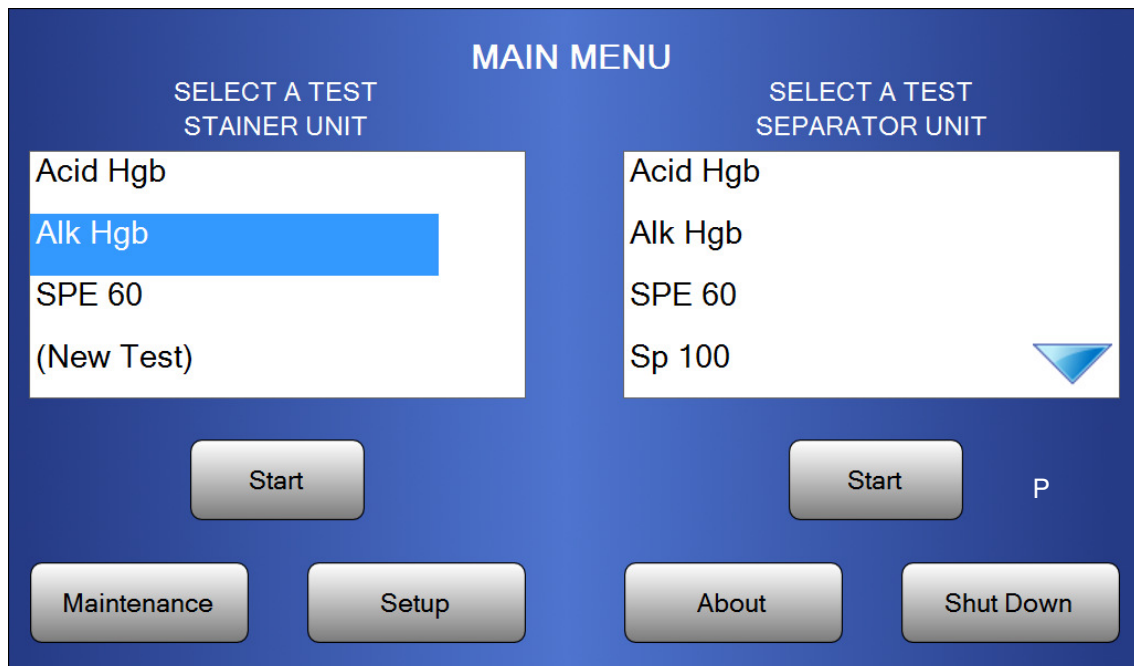

Figure 7-4 Select Test
1. From the Main Menu, select the test to be run by touching the screen (Figure 7-4).